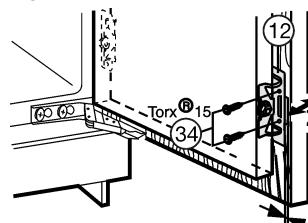

Fig. 22
- ▶ Screw the appliance door to the unit door with screws Fig. 22 (34) passed through the mounting brackets Fig. 22 (12).